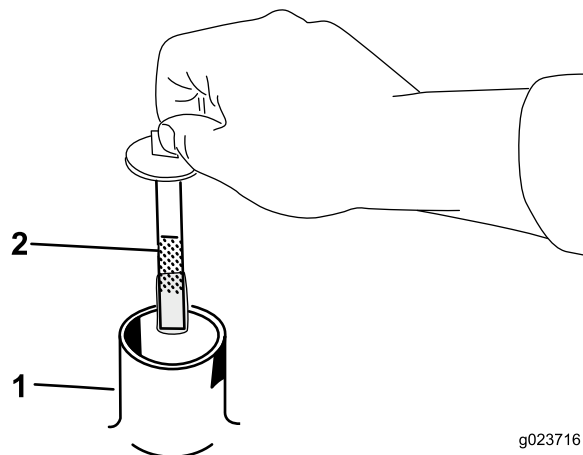

Figure 42
5. Remove the cap from the filler neck and check the fluid level on the dipstick (Figure 42).